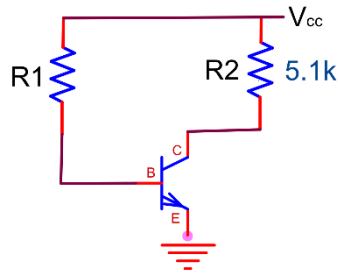
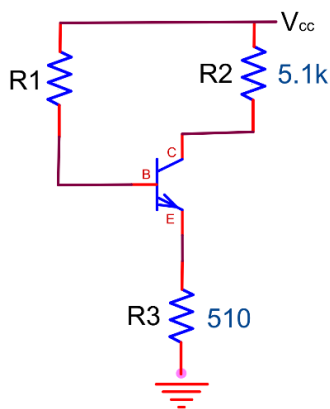
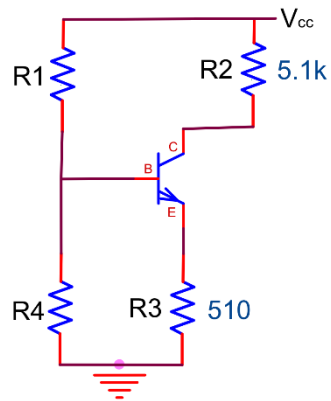

Figure 5.2
Figure 5.3
Figure 5.4
1. Using the equations, you have developed in steps 1-4, design amplifiers in each of the three configurations (Figure 5.2, Figure 5.3, Figure 5.4) with the following specifications: $V_{ce} = 8V$, $I_c = 1mA$ and a $\beta = 161$. For the transistor use the PSPICE model 2N2222A.
1. Construct the circuit in Figure 5.2 using the resistor values and power supply voltage calculated in the pre-lab. Measure the Q-point of the circuit and record the collector-emitter voltage V_{ce} and collector current, I_C .
2. Construct the circuit in Figure 5.3 using the resistor values and power supply voltage calculated in the pre-lab. Measure the Q-point of the circuit and record the collector-emitter voltage V_{ce} and collector current, I_C .
- Construct the circuit in Figure 5.4 using the resistor values and power supply voltage calculated in the pre-lab. Measure the Q-point of the circuit and record the collector-emitter voltage V_{ce} and collector current, I_C .
2. Re-simulate the circuits in figures 5.2, 5.3 and 5.4 in PSPICE for both of your β value and verify each circuit's performance for each device. Compare the results of these simulations to your experimental results. Also, compare them to the results obtained in the pre-lab simulation with the default β .
9. Place this modified device in the circuit shown in figure 5.3. Set the base current source to the value required for your Q-point. In our example, $I_C = 1$ mA and $\beta = 200$, thus, $I_B = 5\mu\text{A}$.